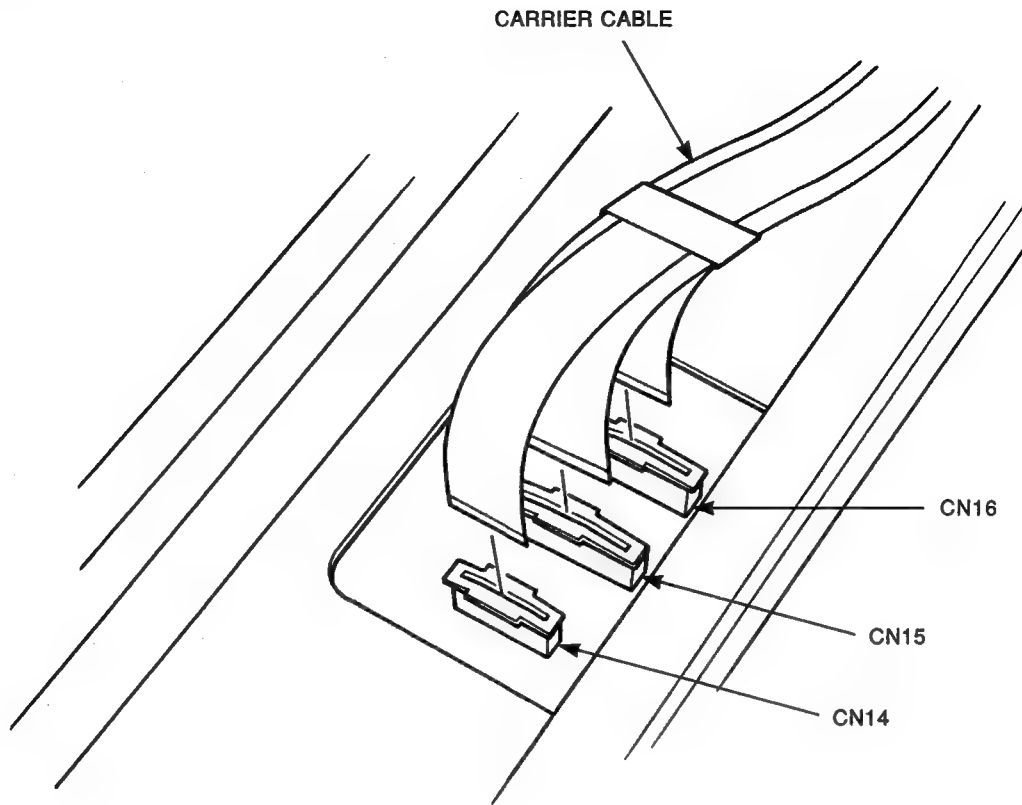

Figure 3-39 Carrier Cable Connectors
3. Pull up both ends of the connector locks CN14 through CN16 (see Figure 3-39).